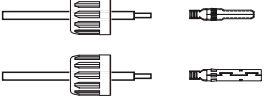

Figure 4.11 Insert the Wire into the Connector Cap nut and contact pin
2. Insert the wire into the connector cap nut and contact pin. (see Figure 4.11)